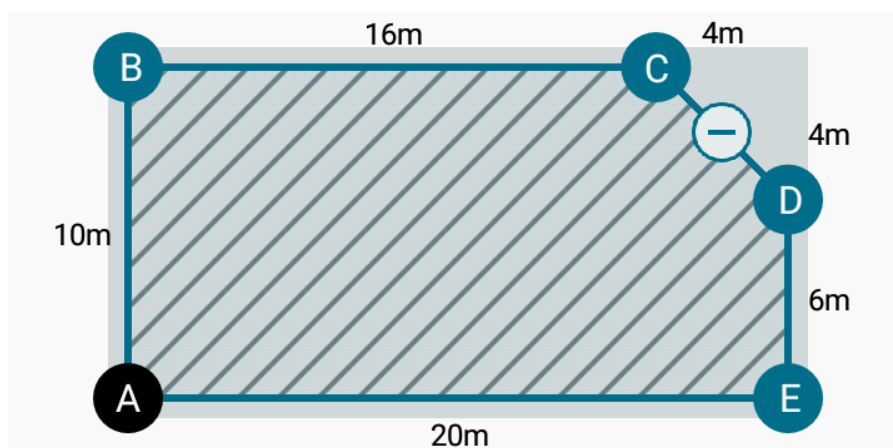

Fig. 4.6.5: Create beveling
- ▷ Beveling of a corner of the field. Tap the corners at the bottom of the schematic diagram to obtain beveling by 4 x 4 m, see Fig. 4.6.5. You can edit the length of the corresponding edge of the beveling by briefly tapping the length detail of the beveling (4 m), see Fig. 4.6.6.